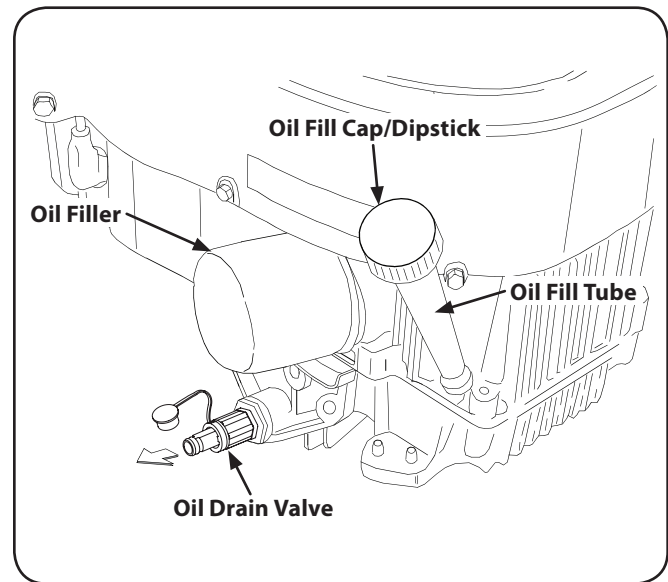

Figure 6-1
3. If your engine has the oil drain valve setup shown in Figure 6-1, see the Oil Drain Valve section on page 21.
1. Pop open the protective cap on the end of the oil drain valve to expose the drain port. Refer to Figure 6-1. Remove the oil fill cap/dipstick from the oil fill tube.